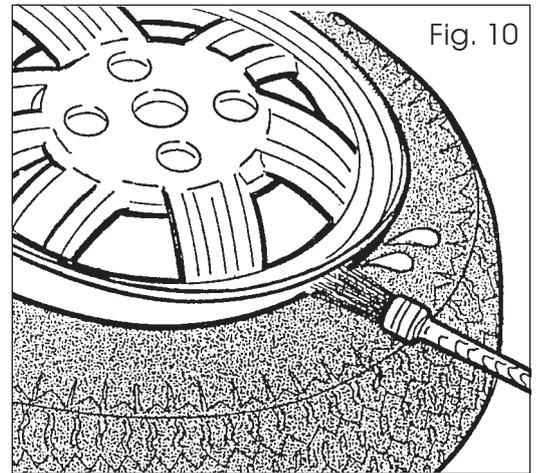

Fig. 10
- Liberally apply tire manufacturer approved rubber lubricant to the entire circumference of both beads to facilitate mounting/demounting and to prevent damage to the beads (Fig.10).